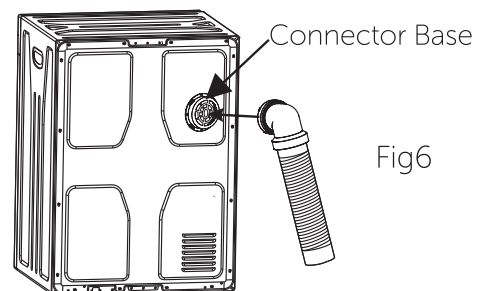

Fig6
2. Put the exhaust hose assembly on the Connector Base in the desired direction (upper, lower, left, and right), as shown in Fig 6.